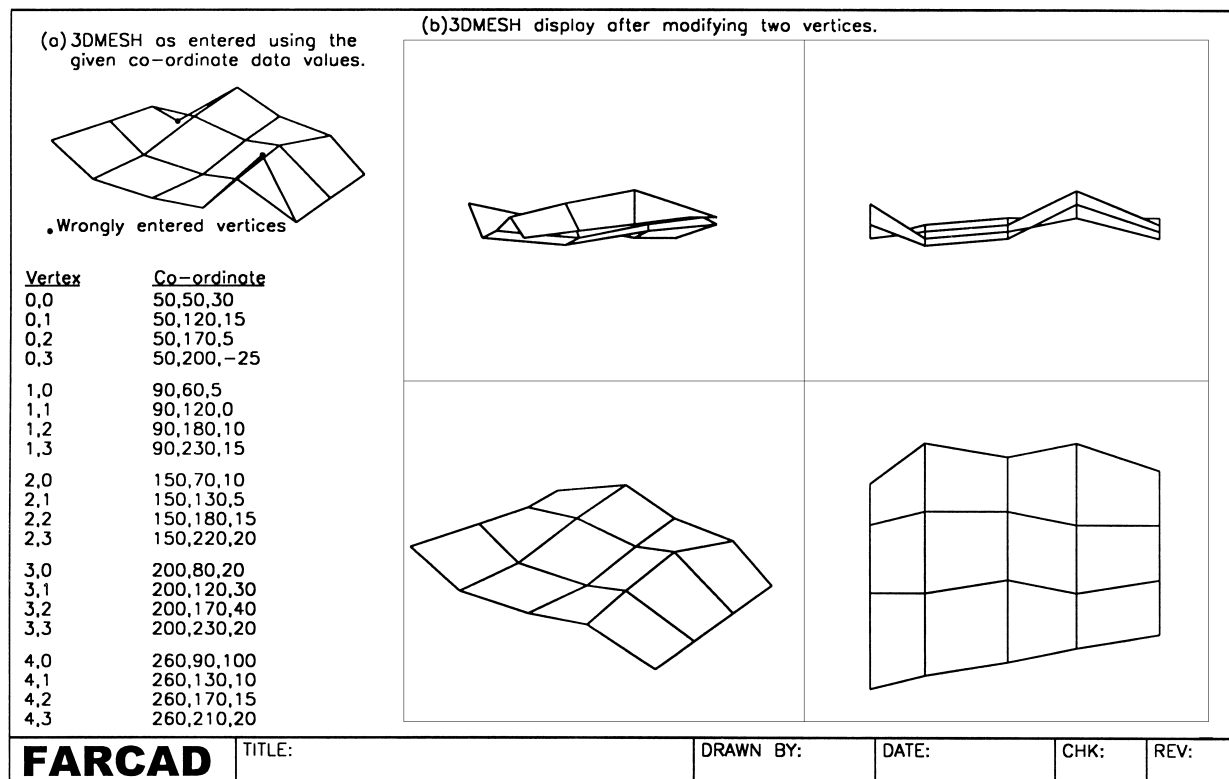

Figure 15.1 3DMESH exercise.
- 3 Display the Surfaces toolbar and refer to Fig. 15.1
respond refer to Fig. 15.1 and enter the required coordinates in response to the vertex prompts